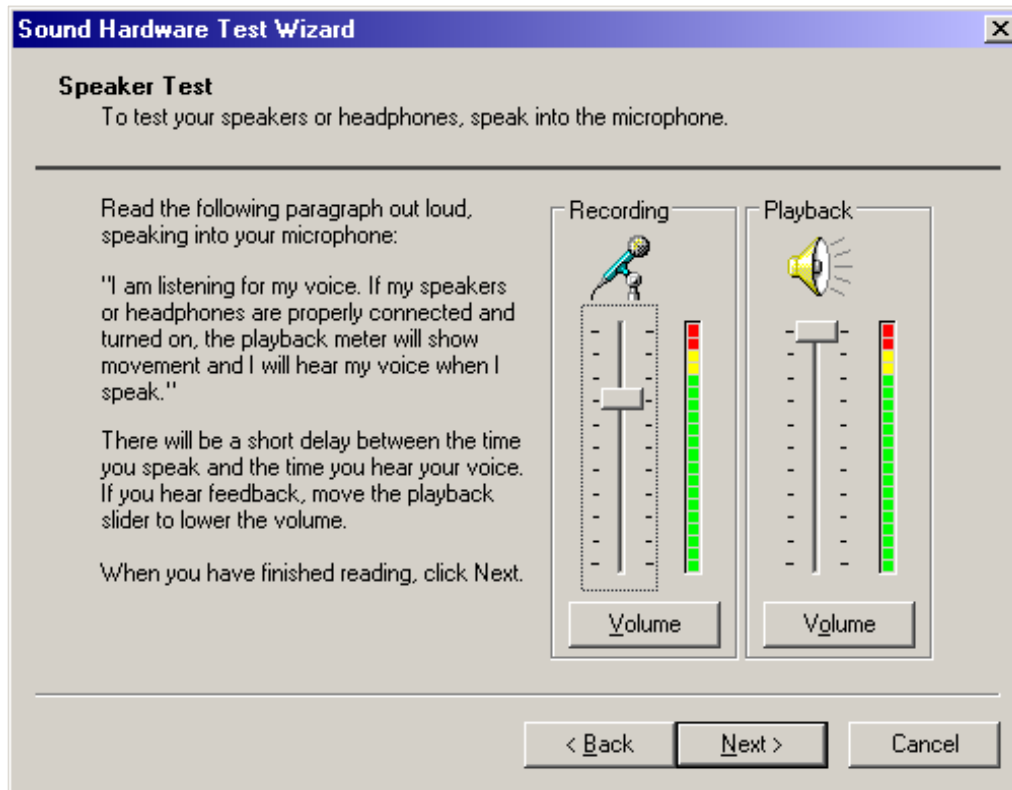

Figure 272. Speaker Test window
11. Now you will test the speakers. The window in Figure 272 will appear.